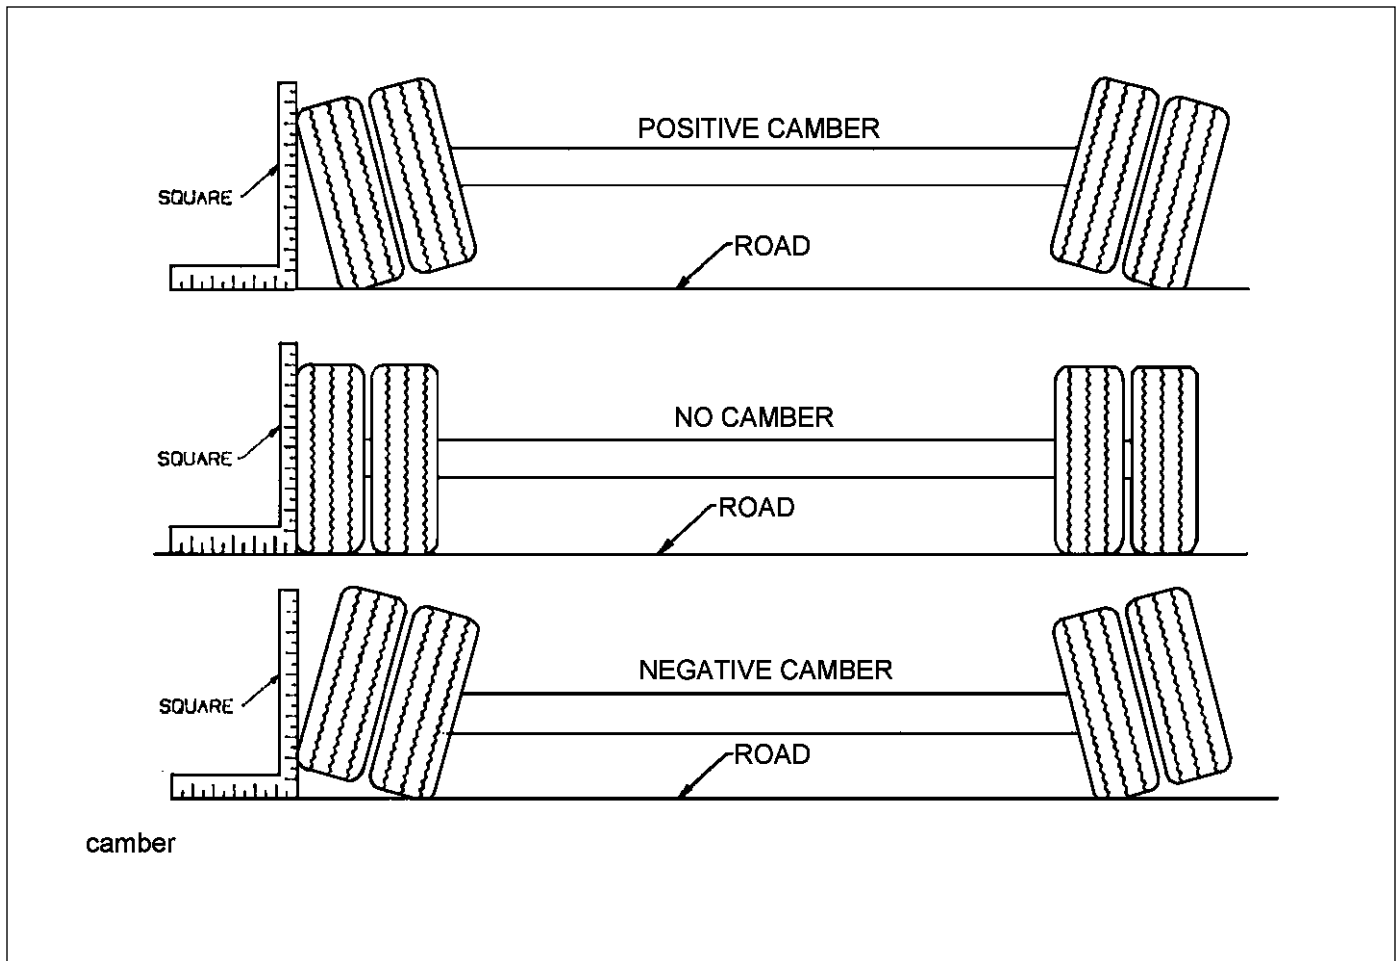

Figure 4-10: Examples of Camber
4. Follow the same procedures as in steps 2 and 3, except place the axle gauge above and below the axle. If gauge point gap is found, the axle has positive or negative camber. The trailer axle has no camber from the factory. If it is found to have positive or negative camber, axle replacement is necessary (See Figure 4-10 for examples of camber).